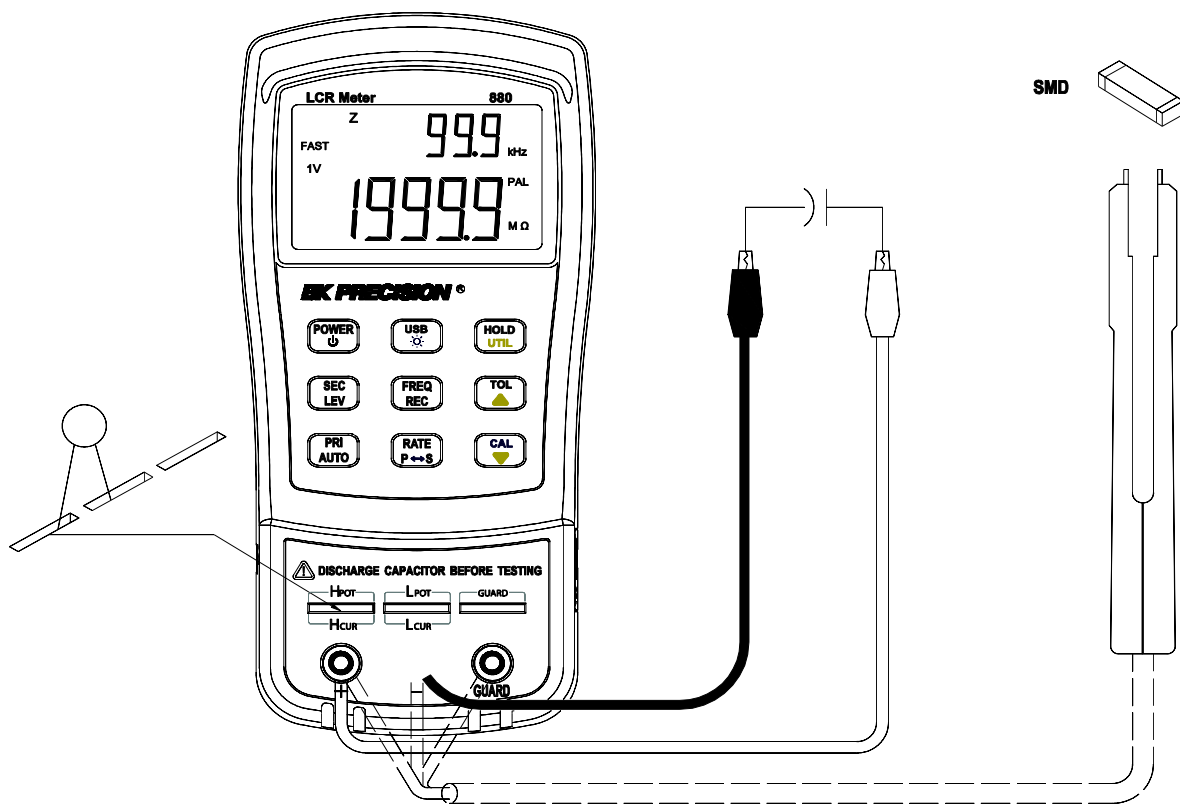

Figure 15 - Impedance Measurement Setup
3. Insert component into the input sockets or connect alligator leads into the banana jack input terminals and connect the clips to the component leads as illustrated in Figure 15 - Impedance Measurement Setup